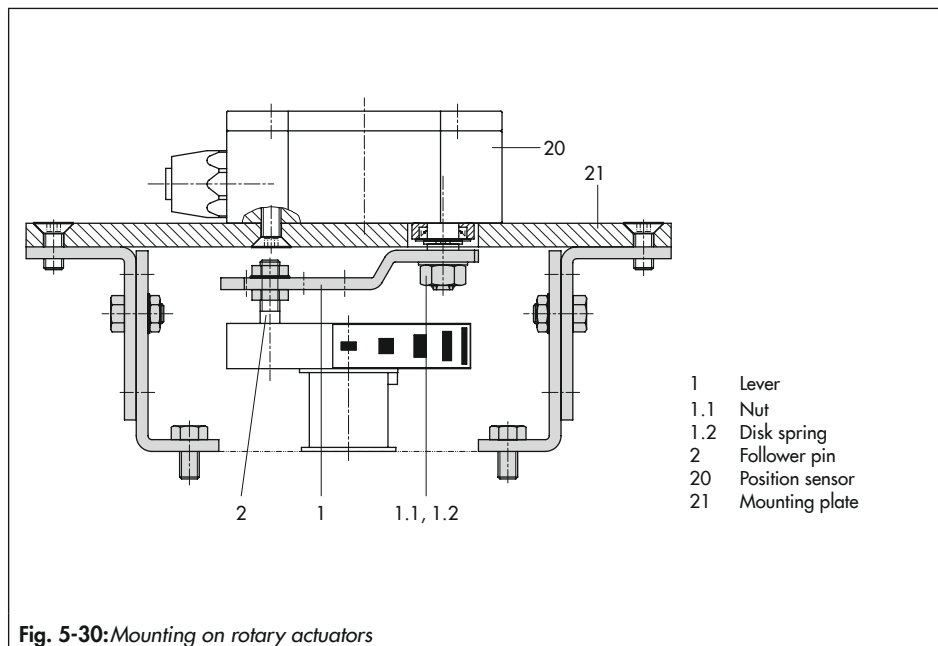

Fig. 5-30: Mounting on rotary actuators
- See Fig. 5-30.
1. Place the lever (1) on the position sensor in **mid-position** and **hold it in place**. Unthread the nut (1.1) and remove the lever together with the disk spring (1.2) from the sensor shaft.
2. Screw the position sensor (20) onto the mounting plate (21).
3. Replace the follower pin (2) normally attached to the lever (1) with the metal fol-